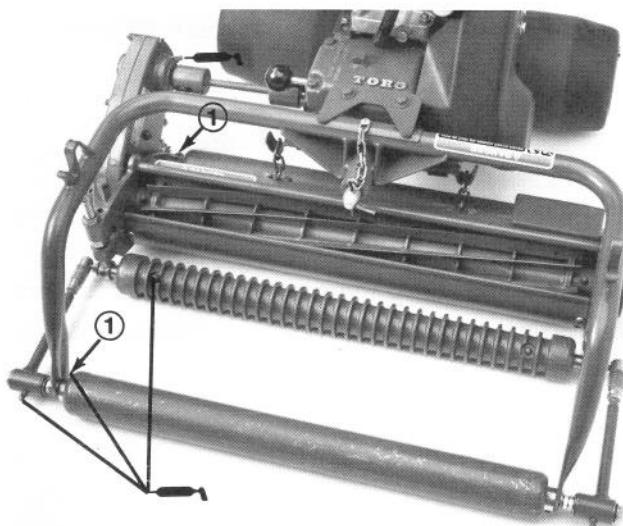

Figure 23
A. Cutting unit reel bearings, drive shaft bearing, front roller or support, yoke pivot and pull arm bushings and rear cutting unit and yoke rollers (Fig. 23).
B. To lubricate the rear cutting unit and yoke rollers, remove pipe plugs at each end, install 1/8-27 NPT grease fittings, lubricate bearings, remove fittings and replace pipe plugs (Fig. 23). Apply grease to enclosed bearing areas only until pressure is felt against the grease gun.
C. Front roller or support, yoke pivot and pull arms; apply grease to bearings until it begins to show (Fig. 23).